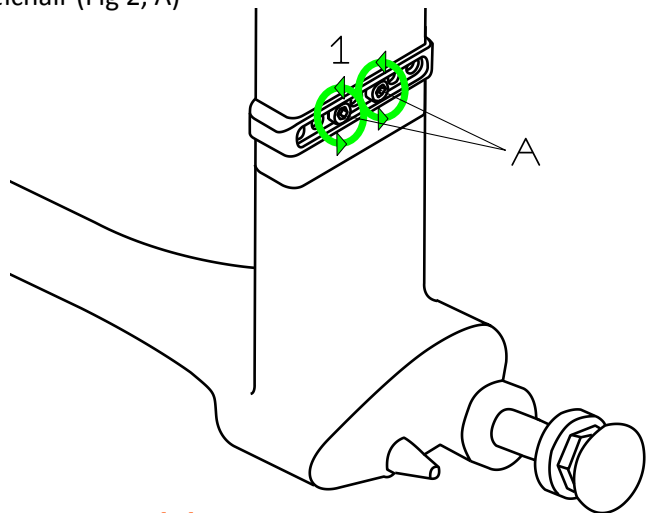

Figure 2
- Loosen two Allen (Hex) screws on each side of the wheelchair (Fig 2, A)